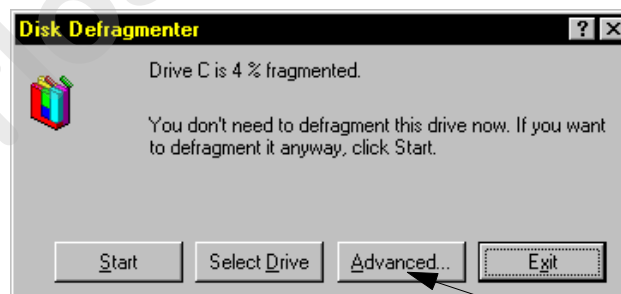

Figure A.28 Disk Defragmenter Dialogue Box
2. Select the **C:** drive from the **Which drive do you want to defragment?** drop-down menu and click the **OK** button. This brings up the **Disk Defragmenter** dialogue box. Refer to Figure A.28.